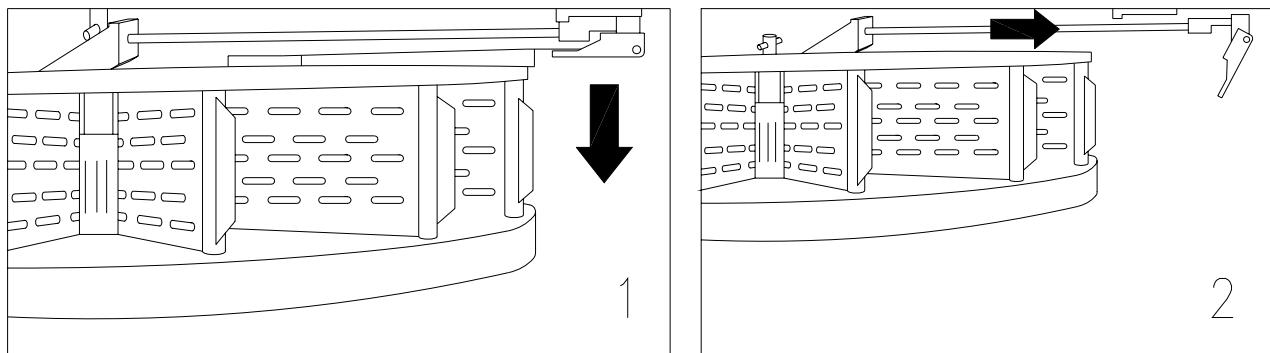

FIG. 8
8.1 REMOVING THE DRUMS FIG. 8 🔧⚠